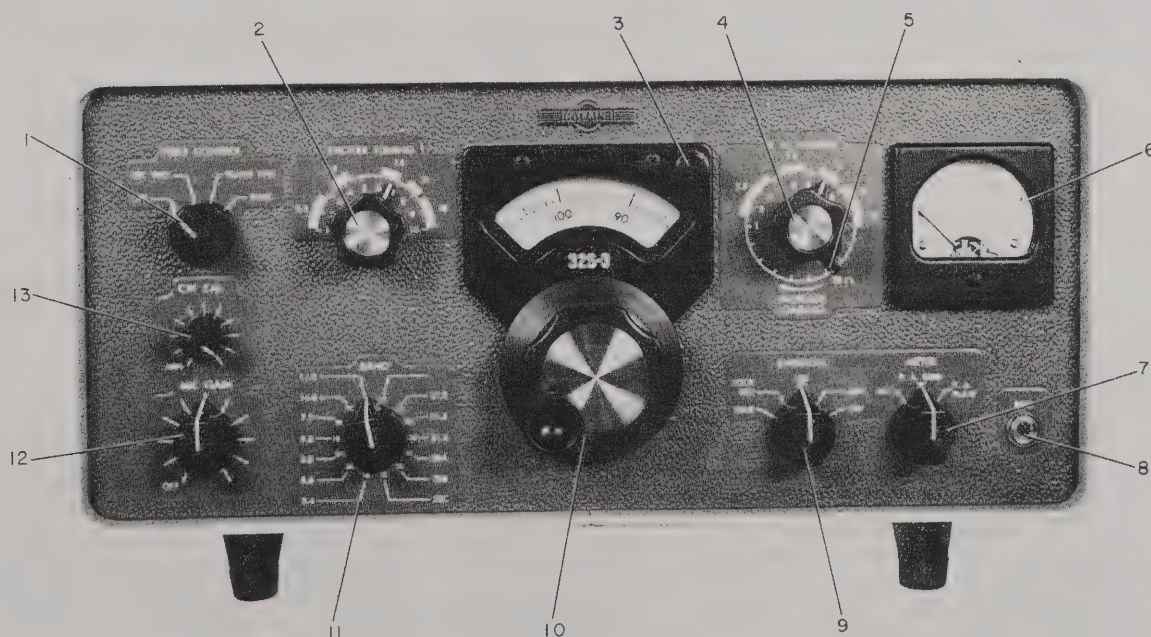

Figure 2-1. Panel Controls
a. Refer to figure 2-1. Set FREQ CONTROL switch (1) to TRANS VFO. See table 2-1.
b. Set BAND switch (11), EXCITER TUNING (2), and P.A. Tuning (4) to desired band.
c. Set tuning dial (10) to desired frequency within band. For example, if BAND switch is set to 14.0 and the desired frequency is 14.195 mc, set the dial to 195. To read the frequency, add the dial setting to the BAND switch setting. As an example, if the BAND switch is set to 3.8 and the dial is set to 5, the frequency is 3.805 mc. If the BAND switch is set to 3.8 and the dial is set to 170, the frequency is 3.970 mc.
d. Place METER switch (7) to P.A. GRID position and EMISSION switch (9) to TUNE.
e. Turn the MIC GAIN control (12) clockwise until the meter needle just moves, then adjust EXCITER TUNING for maximum grid current indication. Adjust both MIC GAIN and EXCITER TUNING controls to